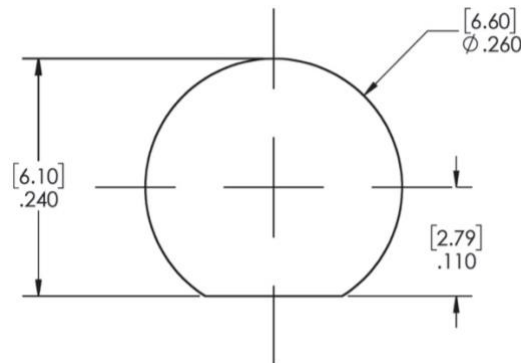

Figure 6 – Recommended mounting hole for 1/4-36UNS-2A threaded antenna with flat
10. Determine best location for external antenna position and create an opening to mount the antenna and bulkhead (See Figure 6 for measurements).